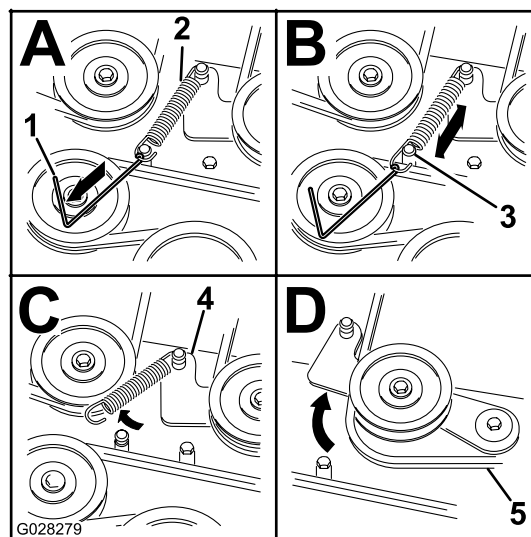

Figure 62
8. Remove the spring tension from the spring-loaded idler pulley. Refer to Figure 62.
- Note:** Use the spring removal tool (Toro Part No. 92-5771) to remove the spring from the mower-deck post (Figure 62).